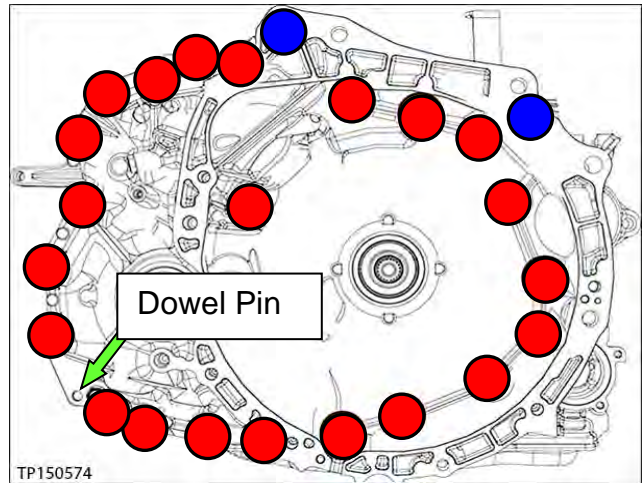

Figure 32
16. Remove all 24 converter housing mounting bolts (Figure 32).